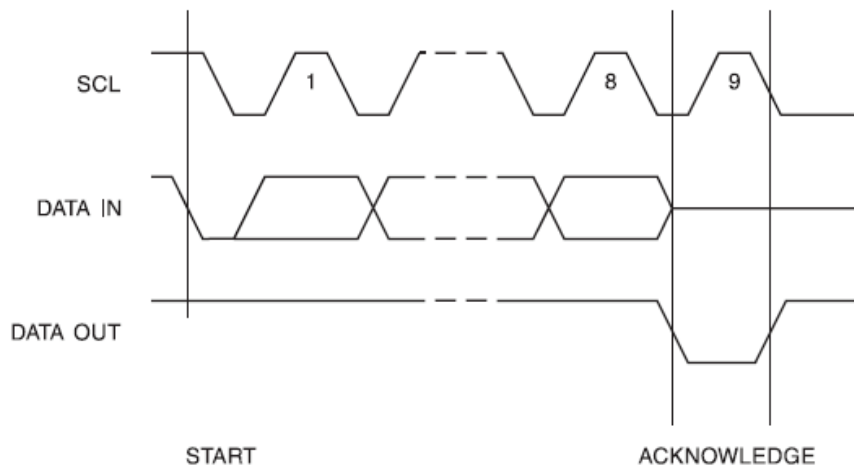

Figure 8: Acknowledge
**ACKNOWLEDGE:** All addresses and data words are serially transmitted to and from the KT0803L in 8-bit words. The KT0803L sends a “0” to acknowledge that it has received each word. This happens during the ninth clock cycle (see Figure 8).